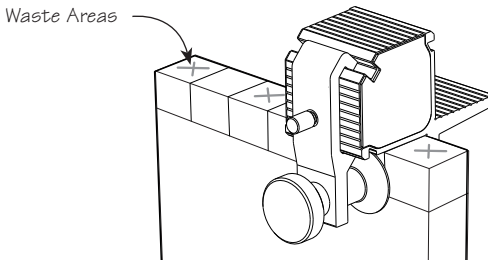

Figure 9: Saw guide set for cutting pins.
8. Place the guide on the end of the board such that the **waste area** is exposed (see **Figure 9**). Leave the clamp loose for the moment.